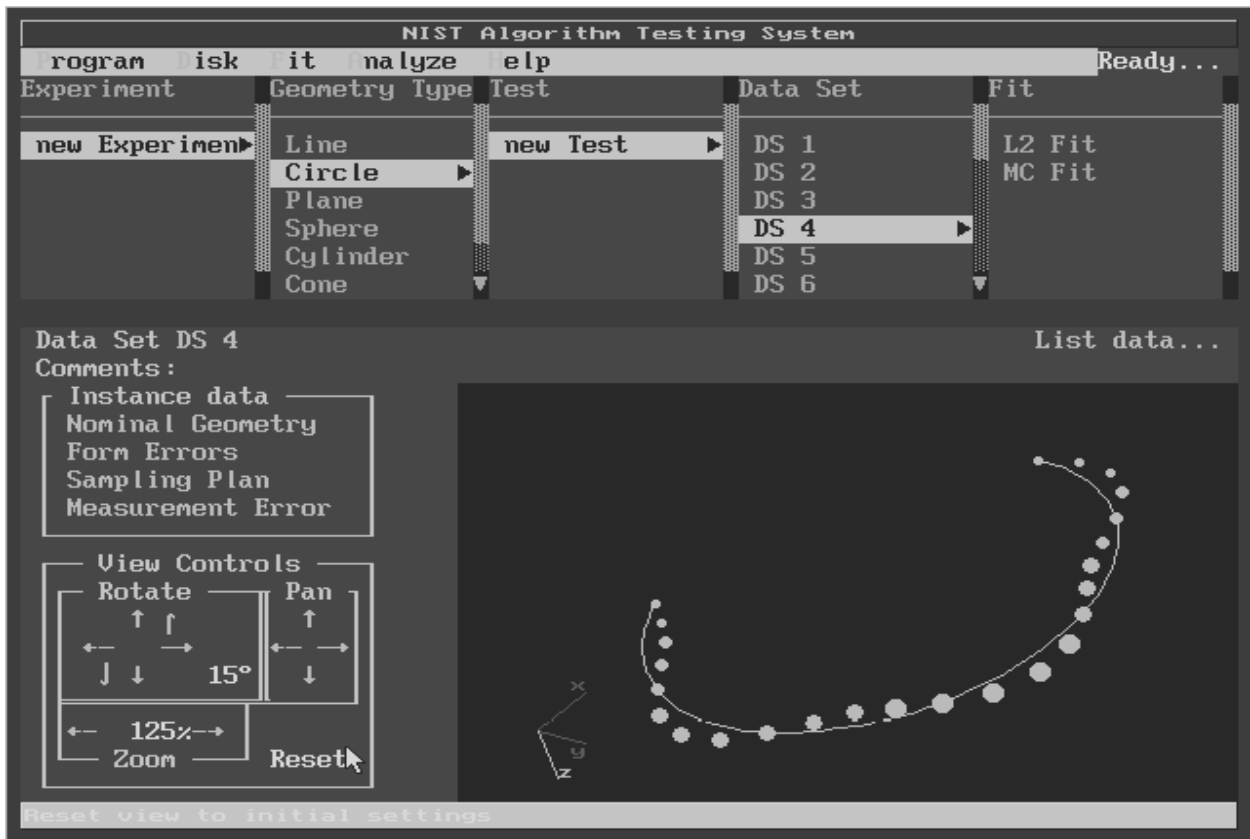

Figure 4 - View of Typical Data Set
- Using the view control window, you may rotate the image, zoom in and out, and pan. You may set the rotation increment by entering a new value in the increment field. You may zoom by using the arrows, or by entering a new value in the zoom value field. The starting zoom position (of 100%) places you at a distance so that the data set fills the graphics window. Figure 4 illustrates a typical view in the graphics window.